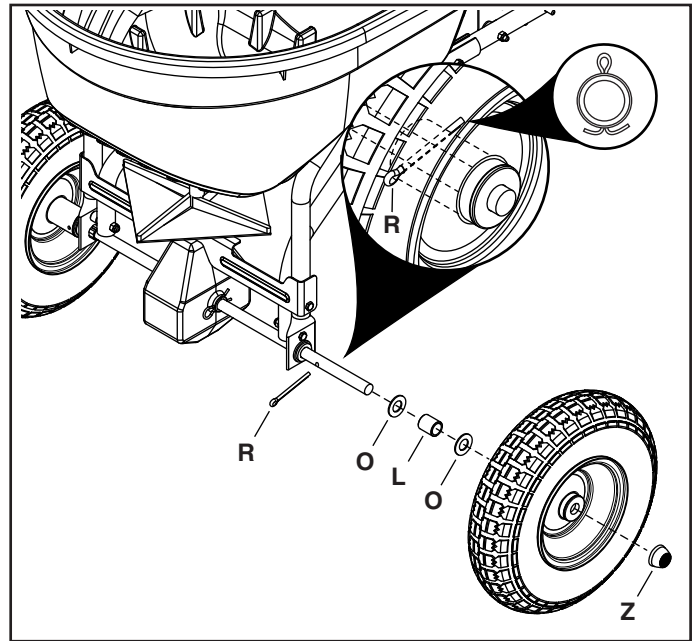

FIGURE 15
STEP 16: (SEE FIGURE 15)
- Slide a 5/8" washer (O), a spacer (L), a 5/8" washer (O) and a wheel onto the end of the axle with a hole.
- Secure the wheel to the axle with a 3/16" x 2" cotter pin (R), spreading both ends of the cotter pin.
- Carefully hammer a hub cap (Z) onto the axle.